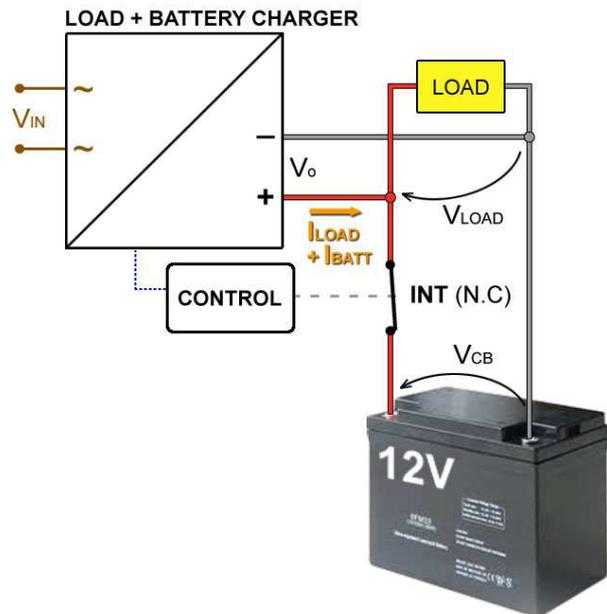

Figure4 – DC-UPS system composed of a single power supply for the load and the battery recharging.
if the LOAD, which requires to be powered at 12V, agrees a voltage range $12V \pm 20\%$ or $9.6V \div 14.4V$ (see the datasheet of your LOAD), then you can use a single power supply that serves both to power the load and to charge the battery, as shown in Figure4.
- 40Ah battery (I-V characteristic in Figure4)
We consider the worst case: the battery is initially empty. Looking at the characteristic of the battery seems clear that if the battery is empty and put in charge at 13.8V, it tends to absorb 8A (see Figure4, brown line).